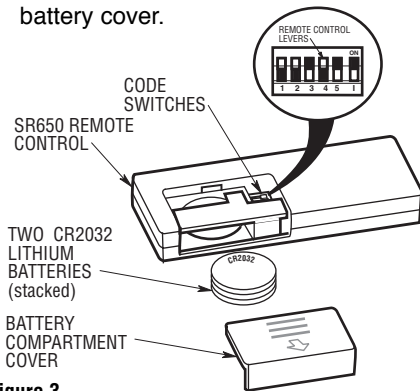

Figure 3
- 1. Remove the battery cover by pressing firmly below the arrow and sliding the cover off the control (Figure 3).